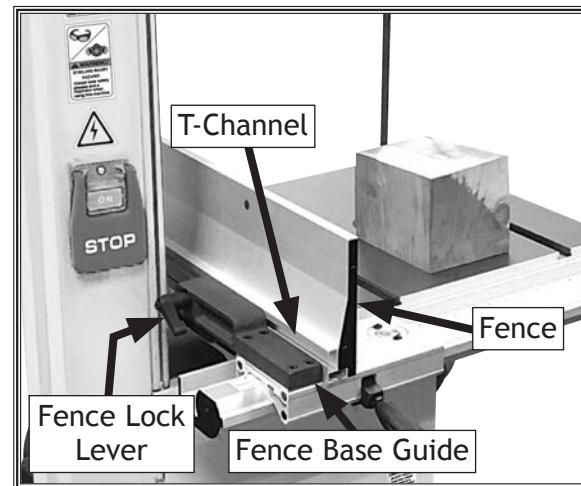

Figure 29. Installing fence in vertical position.
13. Mount fence to fence base guide, sliding T-channel around fence base guide plate (see **Figure 29**).
- For *normal* workpieces or resawing, mount fence in vertical position, as shown in **Figure 29**, then rotate fence base lock lever to secure.